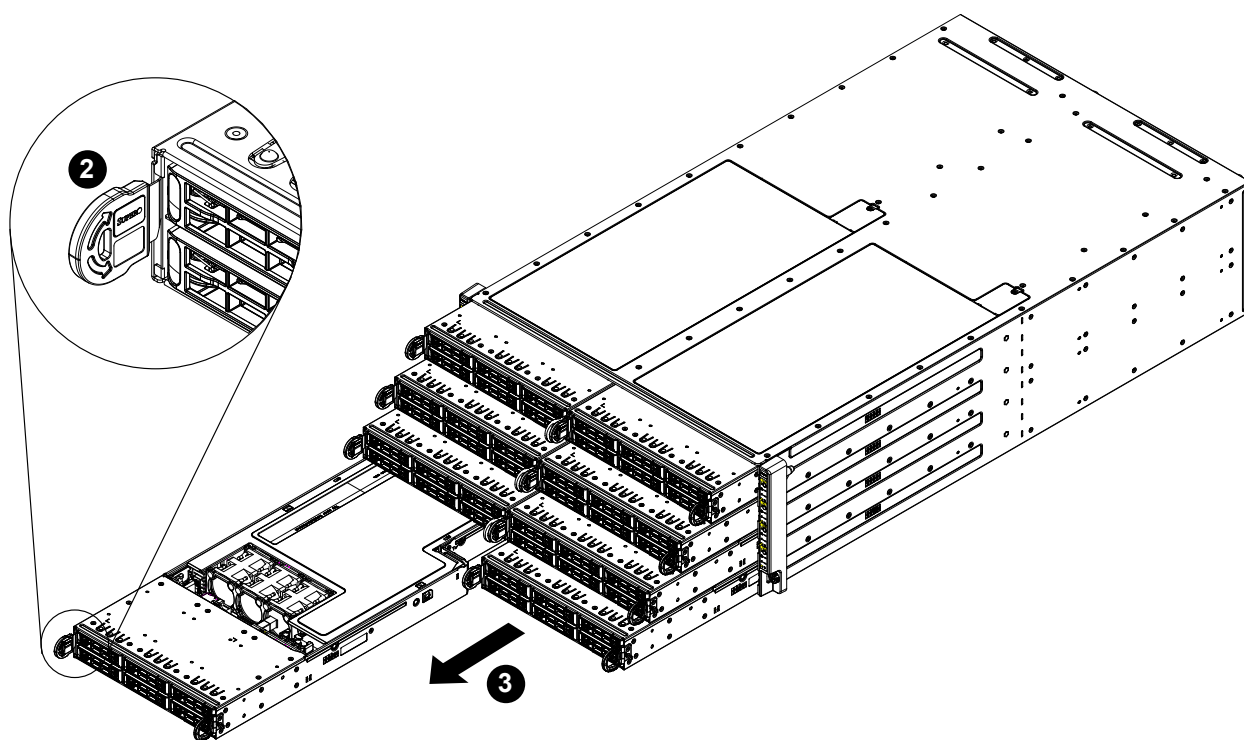

Figure 3-4. Removing a Node from the Chassis
- **BMC > Server Health > NVMe SSD** – Shows the temperatures of all NVMe drives, as in Figure 3-4.